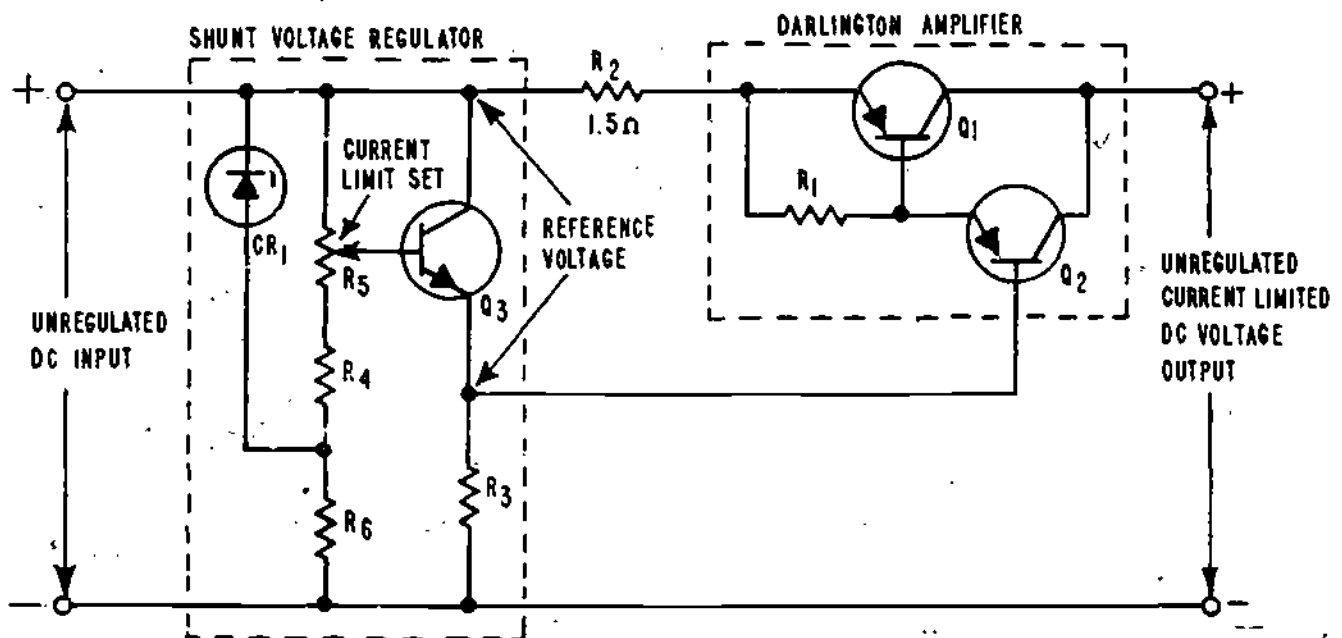

FIGURE 32
- (41.) Refer to Figure 32. Notice the Darlington amplifier enclosed by the dotted lines on the right hand side of the figure and recall that the output of a Darlington type amplifier is the product of the gain of each of the transistors. For a review of this concept and a more detailed explanation, refer to frames 31 through 33 of this lesson.
The component which determines the output reference voltage of the transistor shunt regulator circuit in Figure 32 is: